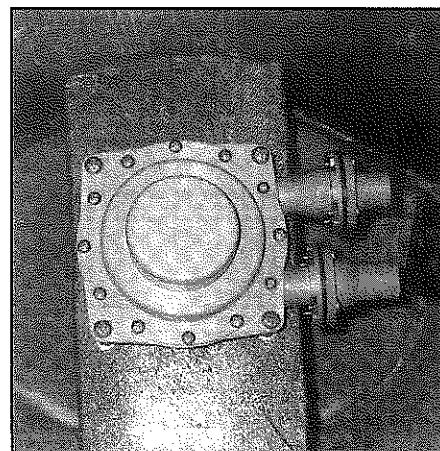

Figure 10. Pump mounted on bracket.
- After the epoxy has cured, proceed with installation, following steps 4 through 9. (Figure 10.)